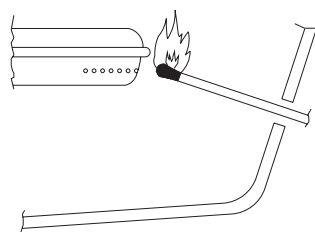

Figure 25
4. Insert a burning long wooden match through the lighter hole on either side of the grill. **See Figure 25.**